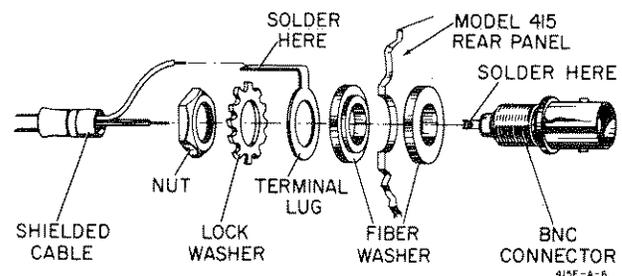

Figure I-2. Connector Assembly
- a. Refer to Figure I-2 which shows the proper assembly of the rear panel lug connector and cable assembly.